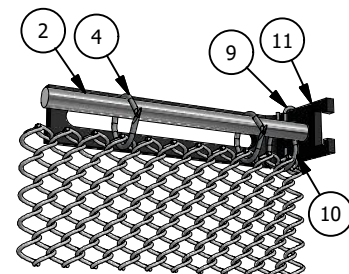

Figure 5
3. Starting at the center edge of the curtain, slide the Backrod (2) through the first two rings (3), the Spacer Spring (6), the third ring, the pull ring with Wand (7), then the fourth and all remaining rings, except the last ring (10) which will be hooked to the Retaining Clip (9) See Fig. 5.
4. With both curtains attached, replace the Backrod (2) on the Hanger Assembly (1). Tighten the center hex nut (5) and the end hex nuts (8). Attach each end ring (10) to Retaining Clip (9) See Fig. 5.